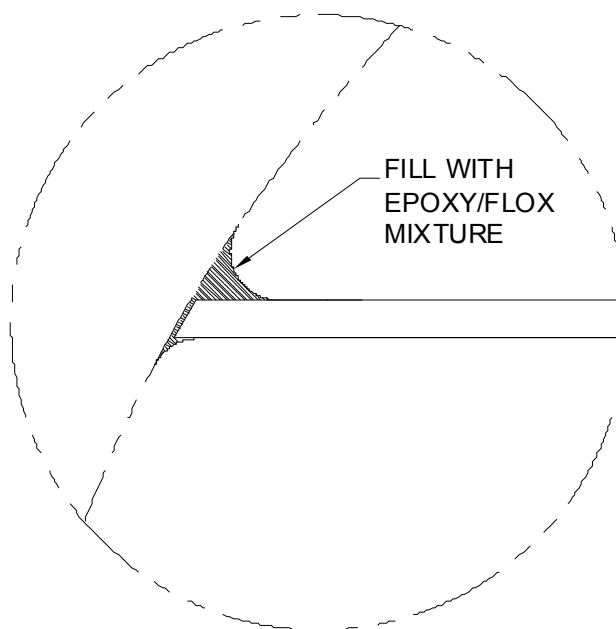

Figure C-22 Fill Detail For Corner Radii And Magnetometer Shelf
4. Fill gap between sides of fuselage and shelf with epoxy/flox mixture. Be sure to make a radius at the corners as demonstrated in Figure C-22 to smooth the corners for laying glass in the following steps. When aligning the shelf, ensure the shelf remains level to within 3° of the pitch and roll axes.